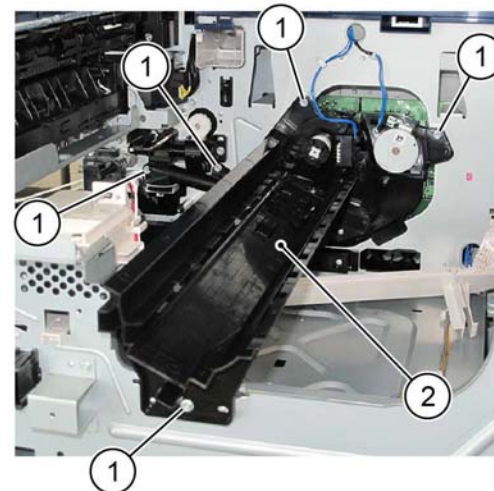

Figure 3 Dispenser pipe unit removal
8. Remove the dispenser pipe unit, Figure 3.
- a. Remove five screws (1).
- b. Remove the dispenser pipe unit (2).